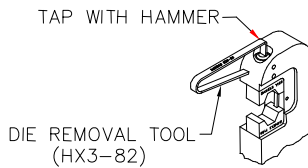

FIG. 2
1. With the crimp dies open, place die removal tool against end of knockout pin and tap gently with small hammer. (See Figure 2) The die will be released from the front die holder. It can now be removed by hand.